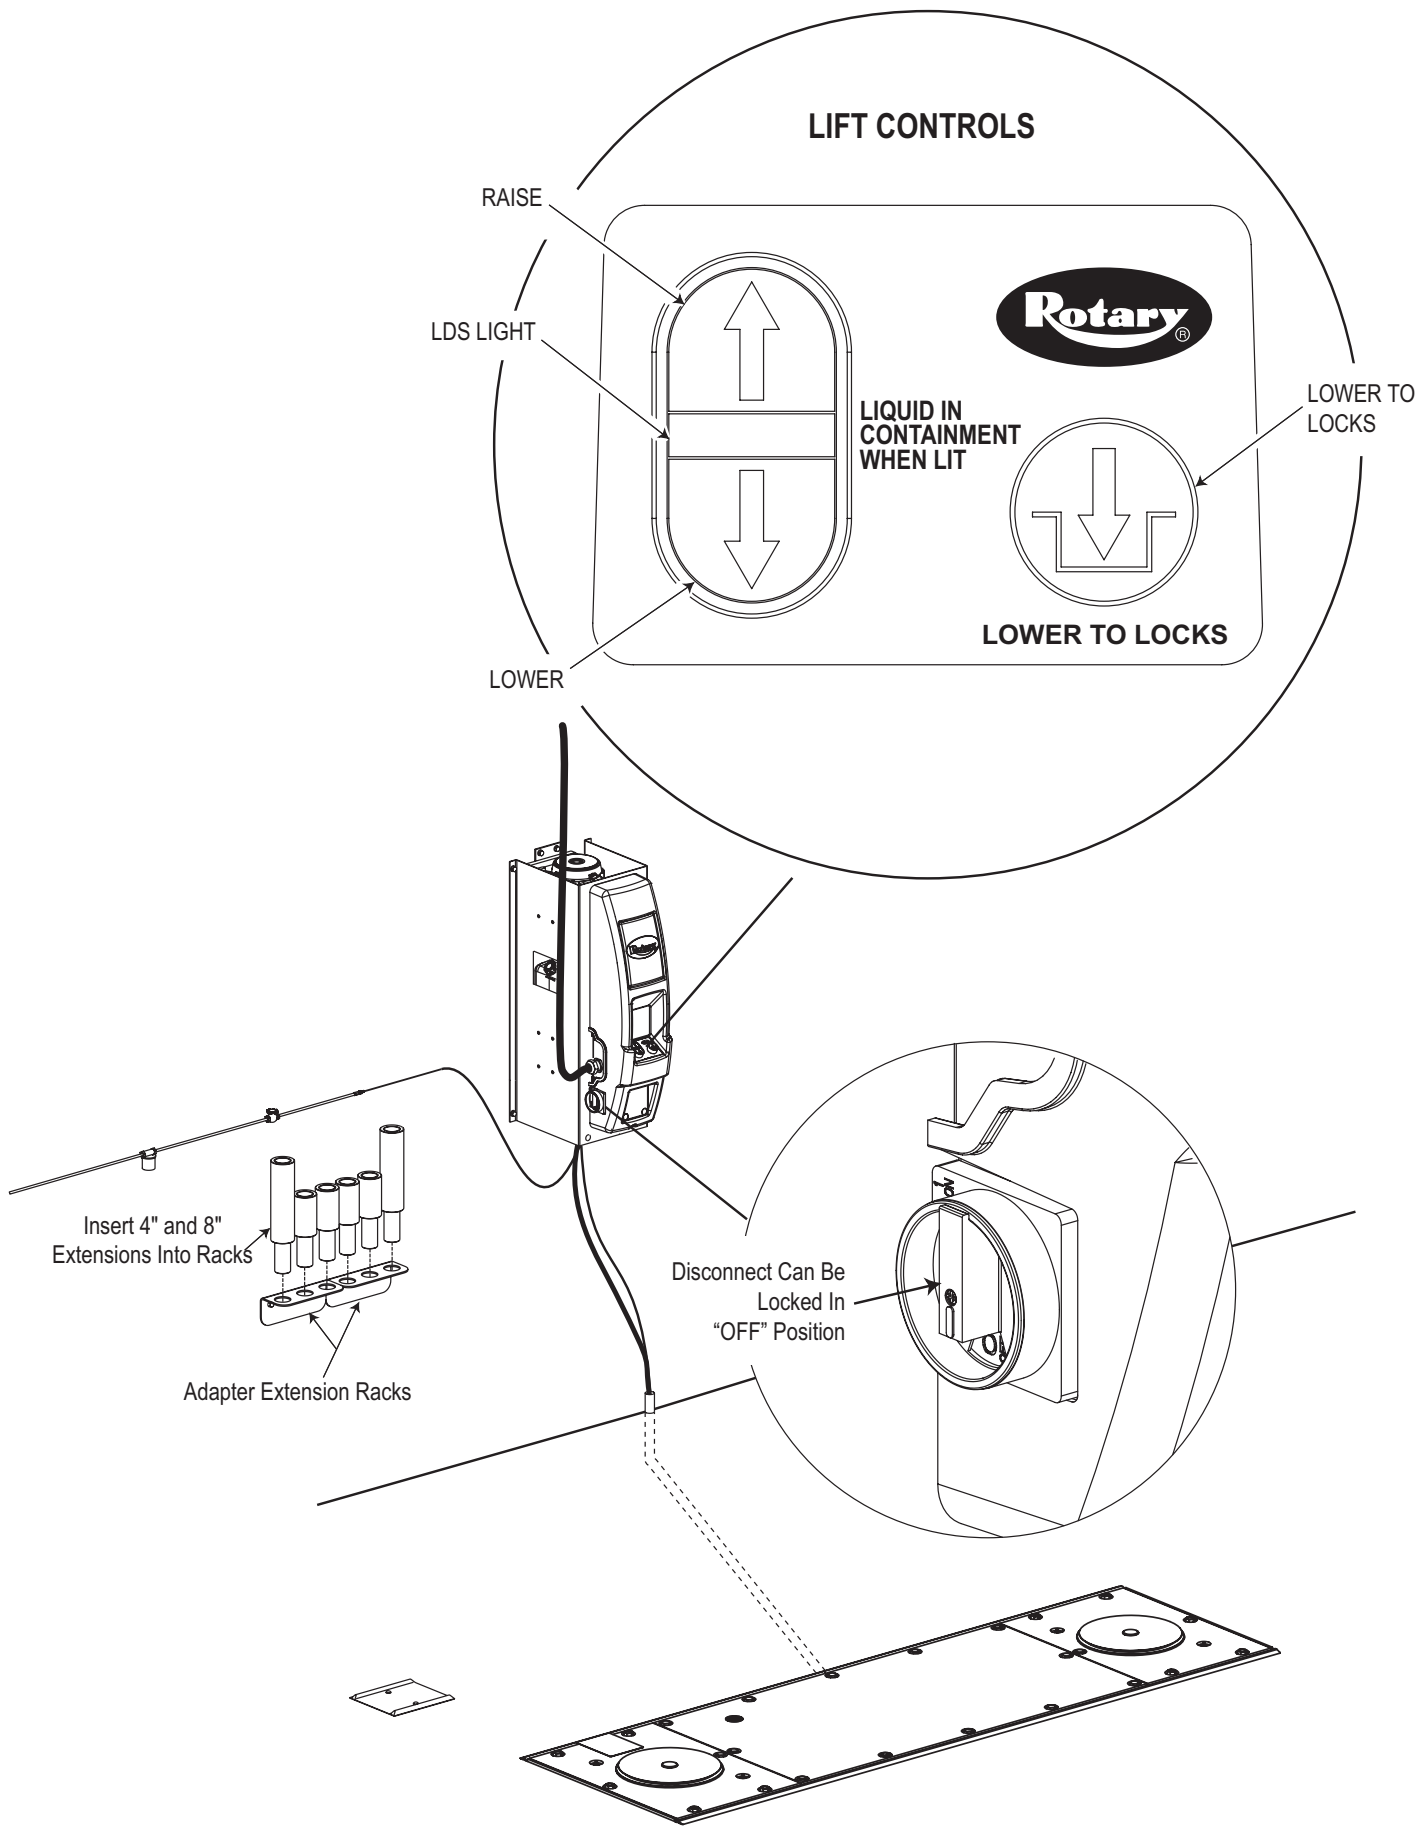

Fig. 15
- D. Press  RAISE button and raise lift to full rise, Fig. 15.
- E. Press  LOWER button to fully lower lift, Fig. 15.
**16. Locking Latch Test; refer to Fig. 15:**
**17. Cylinder/Load Pad Test; refer to Fig. 15:**